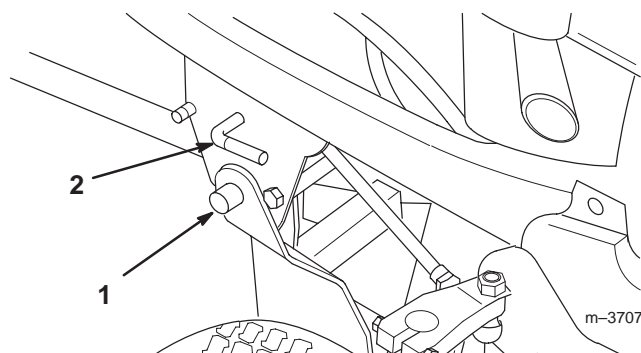

Figure 12
- D. Use the crank support as a lever to lift the snowthrower frame until its connecting pins are completely inside the notches in the mid Attach-A-Matic™ (Fig. 12).
- E. Turn the mid Attach-A-Matic™ lever counterclockwise to lock the snowthrower in place (Fig. 12).